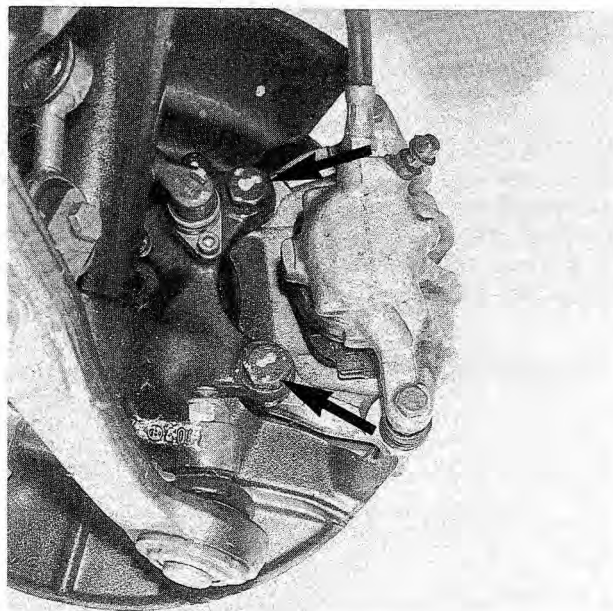

Fig. 5-11. Front brake caliper mounting bolts (arrows).
3. Loosen the hose fitting on the caliper. Remove the two mounting bolts from the steering knuckle. See Fig. 5-11.